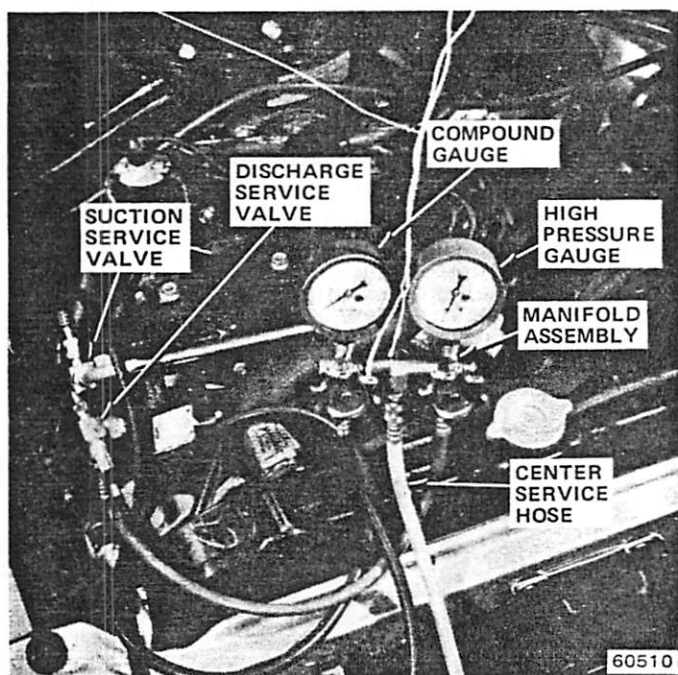

Fig. 3E-14 Typical Pressure Gauge and Manifold Assembly Connections for Discharging System
(1) Connect pressure gauge and manifold assembly to proper service valves.
(2) Turn both manifold hand valves to maximum counterclockwise (open) position.
(3) Open both service valves a slight amount (from back-seated position) and allow refrigerant to discharge **slowly** from system (fig. 3E-14).